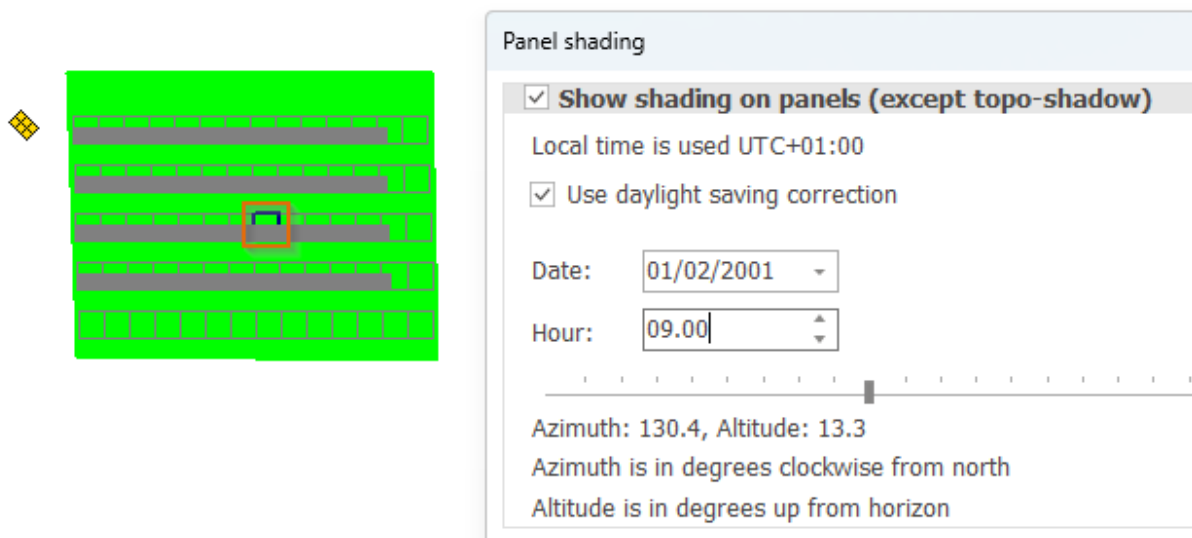
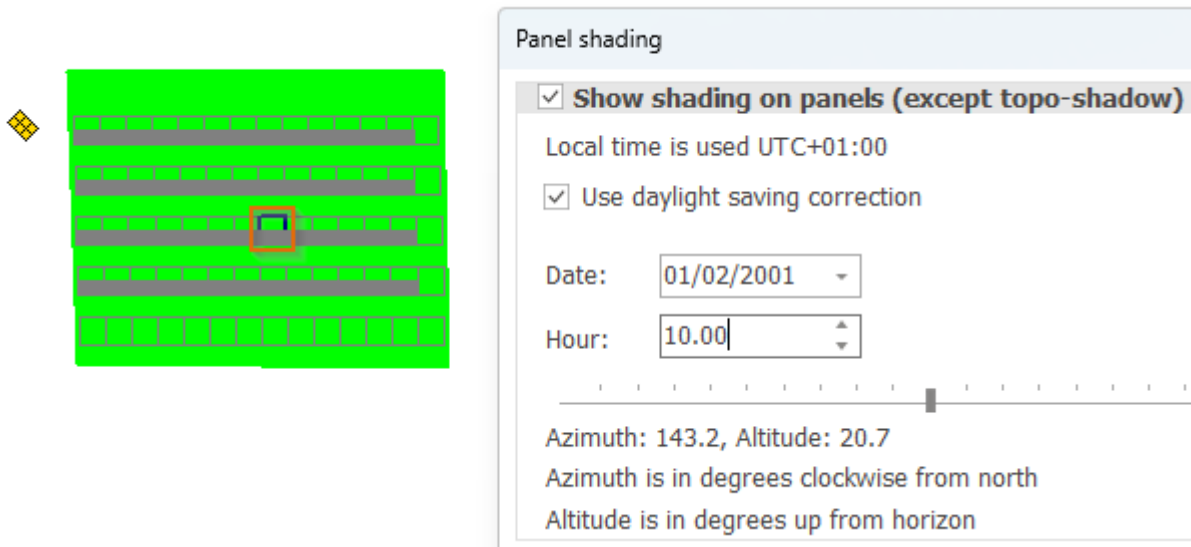

Figure 106 Shading visualization at 9:00
Figure 107 Shading visualization at 10:00.
Table 7 below shows an example of the result to file, where the hourly shading factors and resulting array efficiencies are summarized. In the top lines of the file the exact panel position is shown for all corners of the panel, followed by the diffuse shadow factor calculated for the panel. In the columns, the sun position (Azimuth and Altitude) and the shading factors for the panel are shown. All (H) and All (V) are the horizontal and vertical shading factor on the panel, considering all shadow cast on the PV panels. *All, efficiency* is the total efficiency of the panel considering the calculated shading. Similarly, the following columns present the same calculations separated per shadow source – panel, WTG tower, WTG rotor, Obstacles and Topographic shadow. In the table below, the result for the panel marked in orange in Figure 106 are shown.
As seen in Table 7, the horizontal shading is calculated as 100% and vertical as 58% at 9:00. This leads to an efficiency of the panel in this hour of 0%. The panel used in the calculation has 2 bypass diodes on the long side and it is installed in portrait mode. Hence, vertical panel shadow of above 50% will result in no power output from the panel. In the following hour, the horizontal shading is calculated as 100% and vertical at 49%, what leads to efficiency of the panel of 50%. The factor is multiplied on direct irradiance. The shading can also be seen by visualizing the shadow on the array using the *Shading visualizing*. The shadow at 9:00 is shown in Figure 106 and at 10:00 in Figure 107.